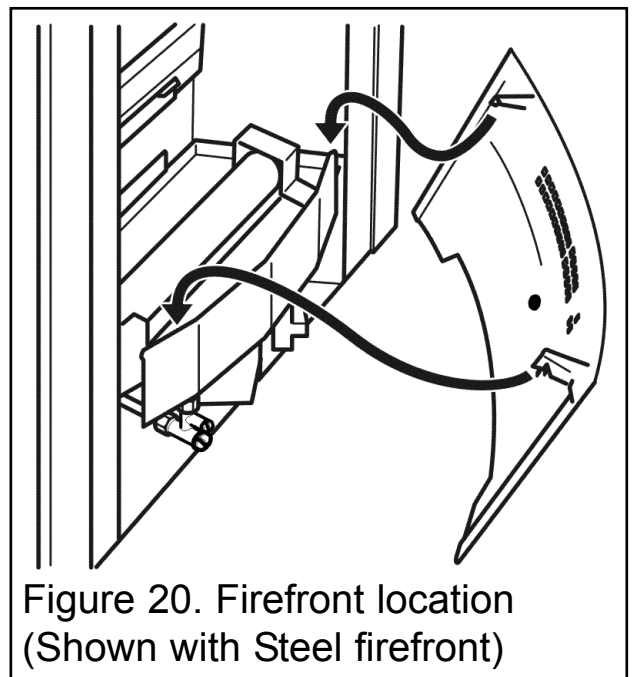

Figure 20. Firefront location (Shown with Steel firefront)
1. The rear of the firefront has two hanging brackets. Hook the hanging brackets over the top of the burner baffle (See figure 20).